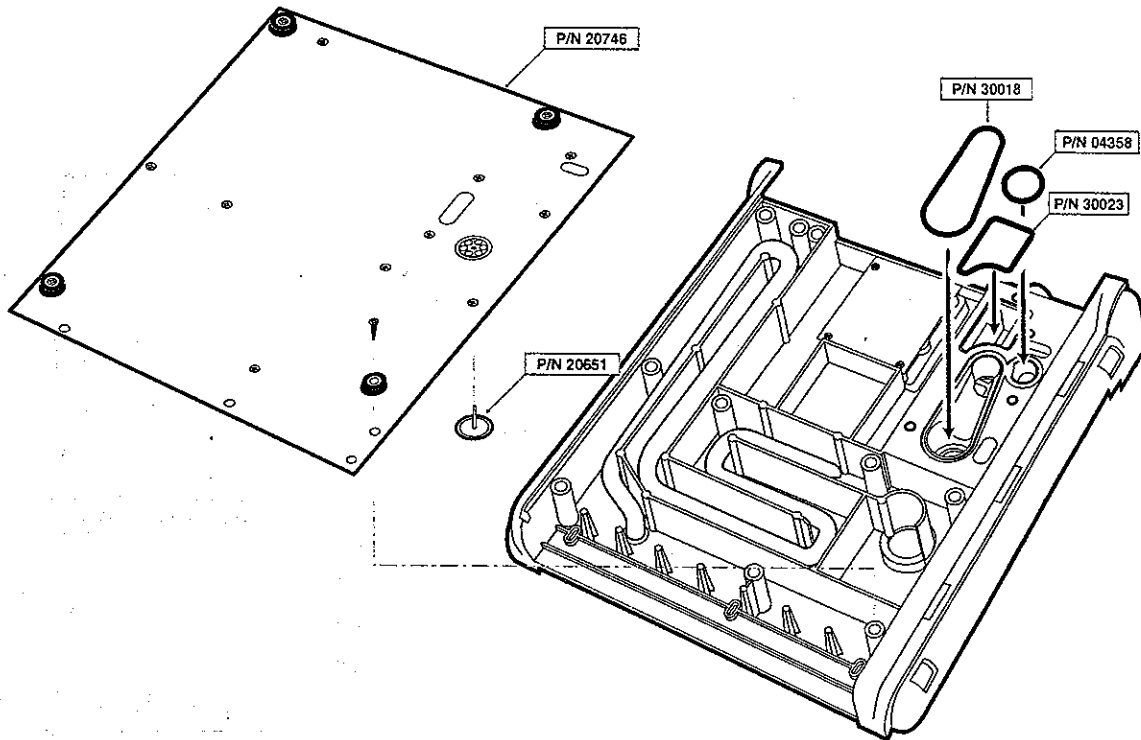

Figure 5-19. Base Plate O-Rings and Anti-Suffocation Valve
2. Referring to Figure 5-19, remove the four (4) rubber bumpers from the base plate.
3. Remove the ten (10) screws securing the base plate to the ventilator chassis and remove the base plate.